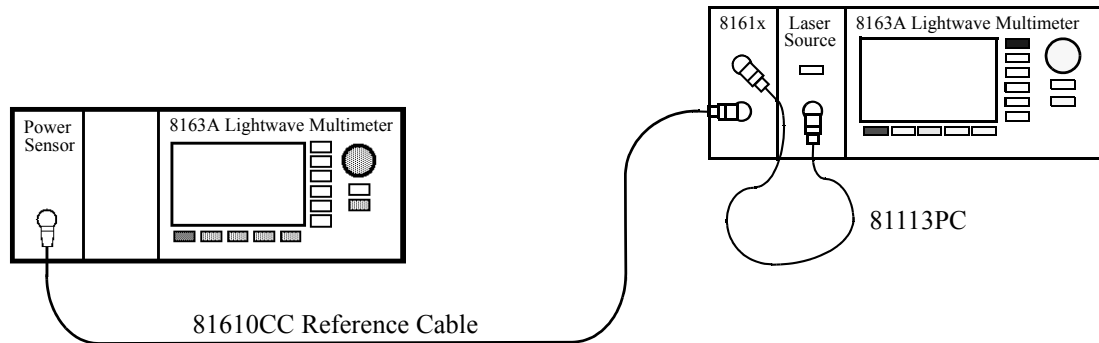

Figure 18 Measuring the Power Transmitted through the Reference Cable - External Source
- 1 Making sure all the connectors are clean, set up the instrument as shown in **Figure 18**